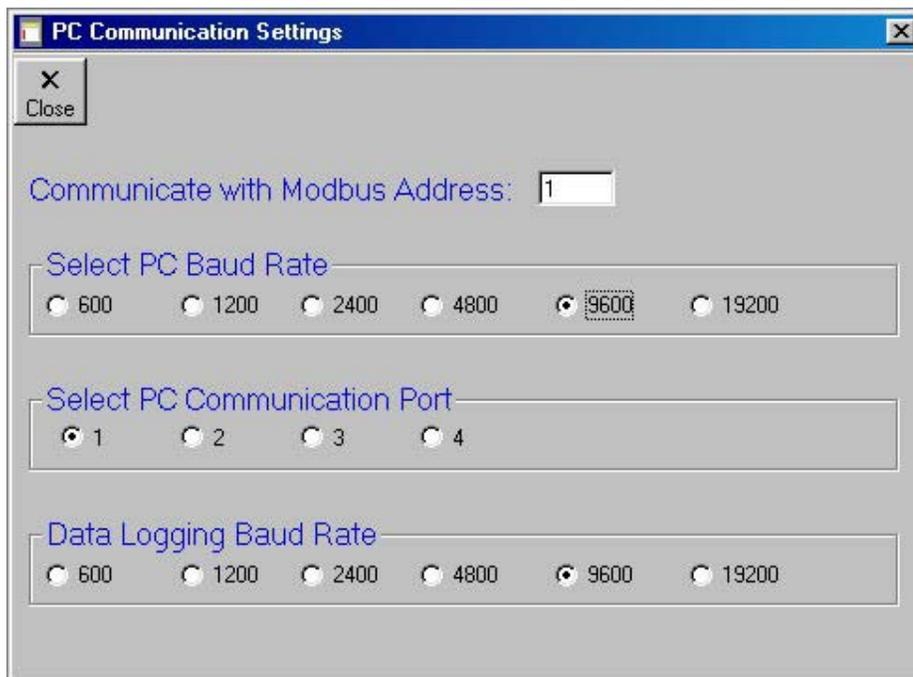

Figure 4 (Default settings shown)
3. The program will load and display the window shown in Figure 4. You will need to select the proper Baud Rate and Comm Port. The PC Communications Settings window will be displayed. Change the settings to match those on the CX224. The default baud rate is 9600, comm port is 1, and Modbus address is 1.